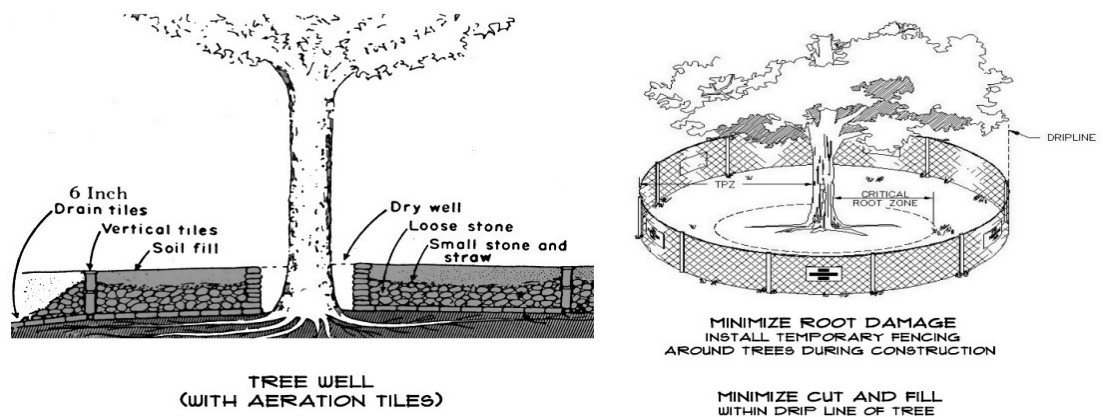

Figure 10: Tree Protection
Maintaining ground level plants in addition to the basic tree cover of each homesite preserves the general character of West Point and minimizes the amount of supplemental landscaping required to soften the impact of structure placed on the site. If a tree is to survive, its roots, bark and leaves must be largely undamaged. Therefore, ground disturbance and compacting within the drip line must be minimized. When filling within the drip line, a tree well must be installed. No trees shall be removed or damaged with a diameter of eight (8) inches four (4) feet above grade without ACC approval. (See Figure 10)